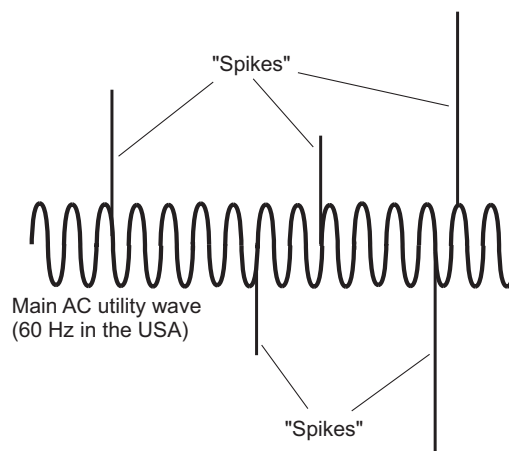

FIGURE 1-7 Transients appear as voltage "spikes" on an AC wave.
In a perfect universe, the alternating current (AC) electricity on your utility line would comprise a pure wave with no flaws or distortion. But in the real world, it's far from "clean." If you look at a typical utility AC waveform on a high-quality laboratory oscilloscope, you'll occasionally see voltage spikes called *transients* that greatly exceed the main wave's positive or negative peak voltage (Fig. 1-7). Transients can result from sudden changes in the *load* (the amount of power demanded by all the appliances combined) in an electrical circuit, and from various external disruptions to the utility hardware.